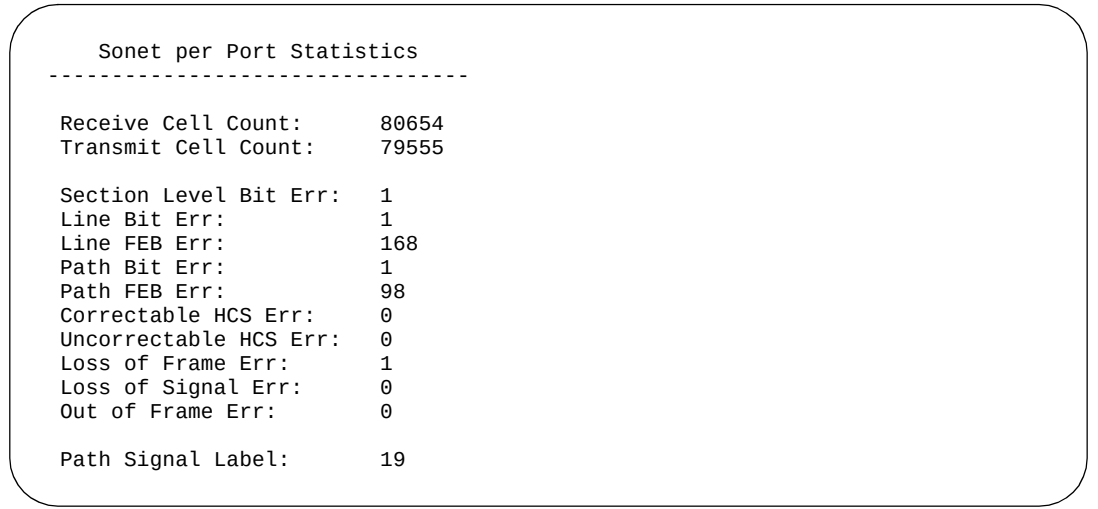

Figure 1-51. A500: show stats sonet a1.2 screen
1. Enter **show stats sonet *port*** on the A500 console. Figure 1-51 shows the screen output.